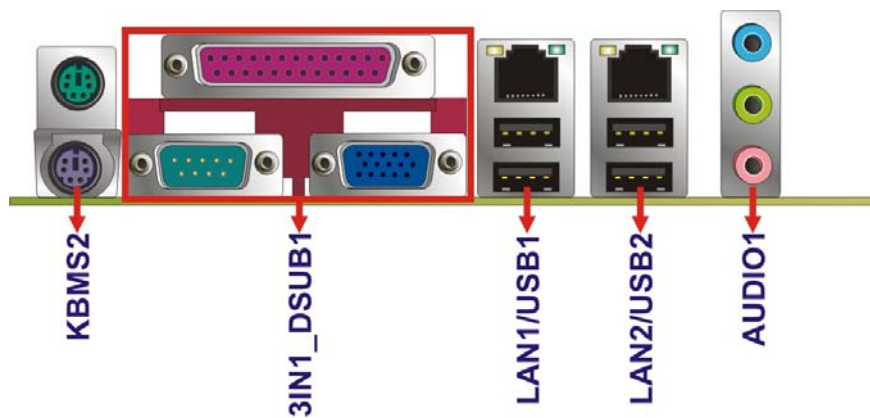

Figure 3-20: External Peripheral Interface Connector
| CN Location: | See Figure 3-20 |
- CN Location: See **Figure 3-20**
CN Location: See **Figure 3-20**